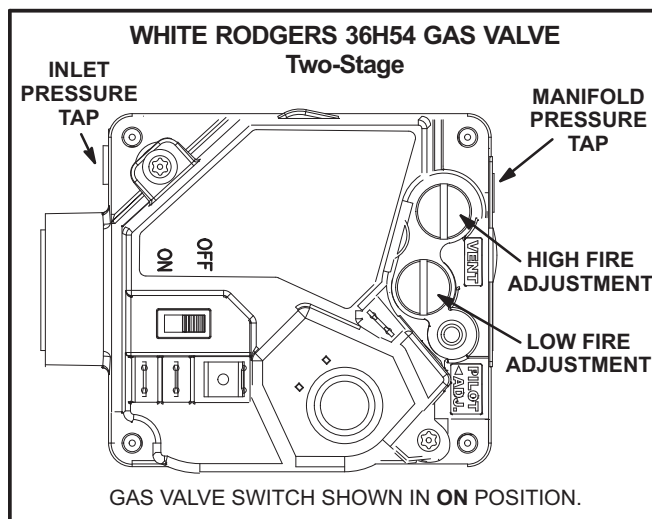
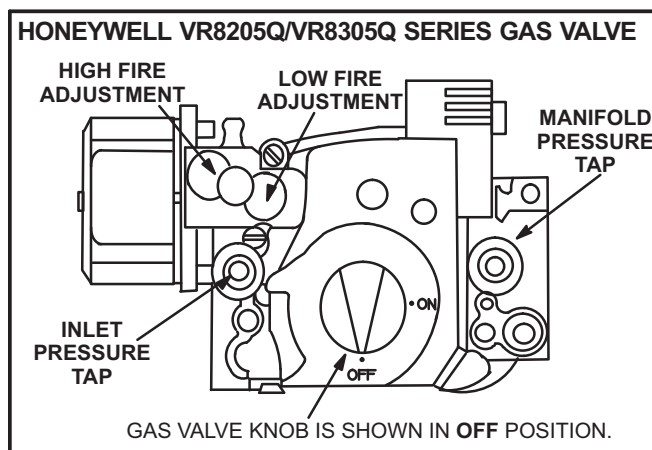

FIGURE 26
FIGURE 27
Gas Valve Operation for Honeywell VR8205Q/VR8305Q and White Rodgers 36H54 (figure 26 and 27)
- 6- Turn gas valve switch to **OFF**. See figure 26. On Honeywell VR8305Q gas valves, turn the knob on the gas valve clockwise ➡ to **"OFF"**. Do not force. See figure 27.
- 7- Wait five (5) minutes to clear out any gas. If you then smell gas, **STOP!** Immediately call your gas supplier from a neighbor's phone. Follow the gas supplier's instructions. If you do not smell gas, go to the next step.
- 8- Turn gas valve switch to **ON**. See figure 26. On Honeywell VR8305Q gas valves, turn the knob on the gas valve counterclockwise ⬅ to **"ON"**. Do not force. See figure 27.